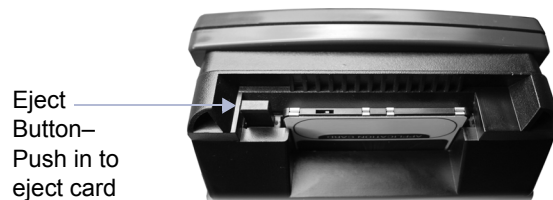

Figure 3.9 PCMCIA Card Slot—Eject Button
- 1 Push in the eject button, located to the left side of the PCMCIA slot (Figure 3.9).